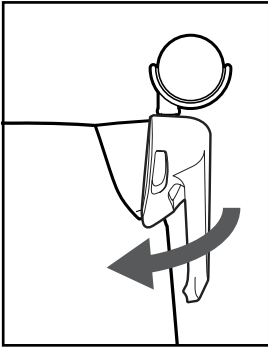

FIGURE 8
7. Apply pressure to front of hose holder to snap into place. **(FIGURE 8)**. Return tank to upright position.